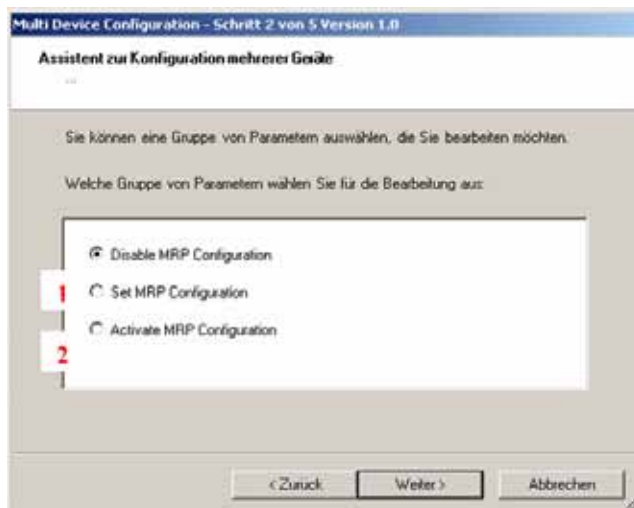

Figure 4-21 Activating redundancy
- Step 2: Select the *Set MRP Configuration* option (see Figure 4-21/item 1)